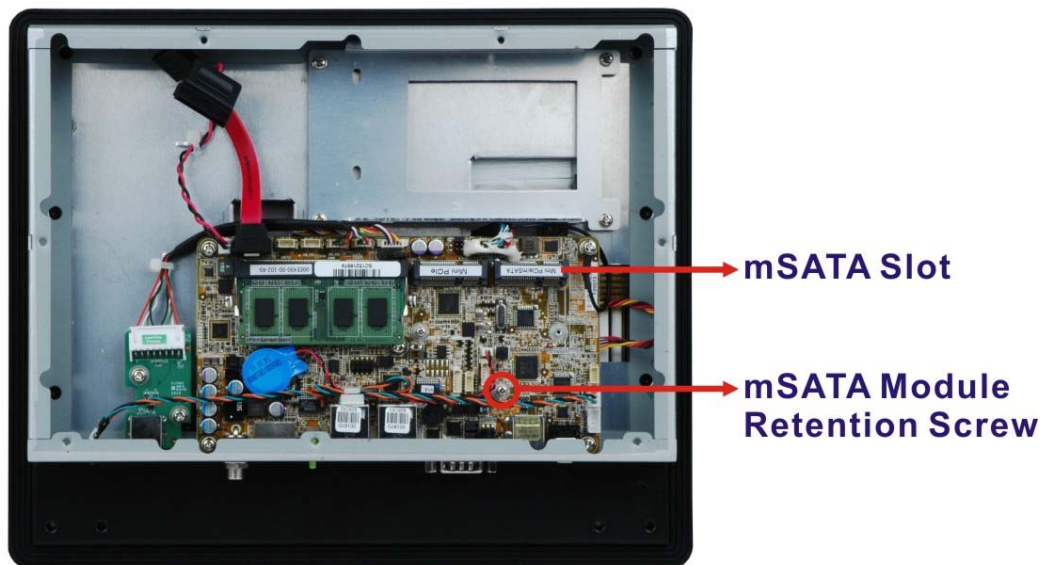

Figure 3-3: mSATA Module Slot Location
Step 2: Locate the full-size PCIe Mini card slot. Remove the preinstalled retention screw on the screw pillar of the PCIe Mini card slot as shown in **Figure 3-3**.